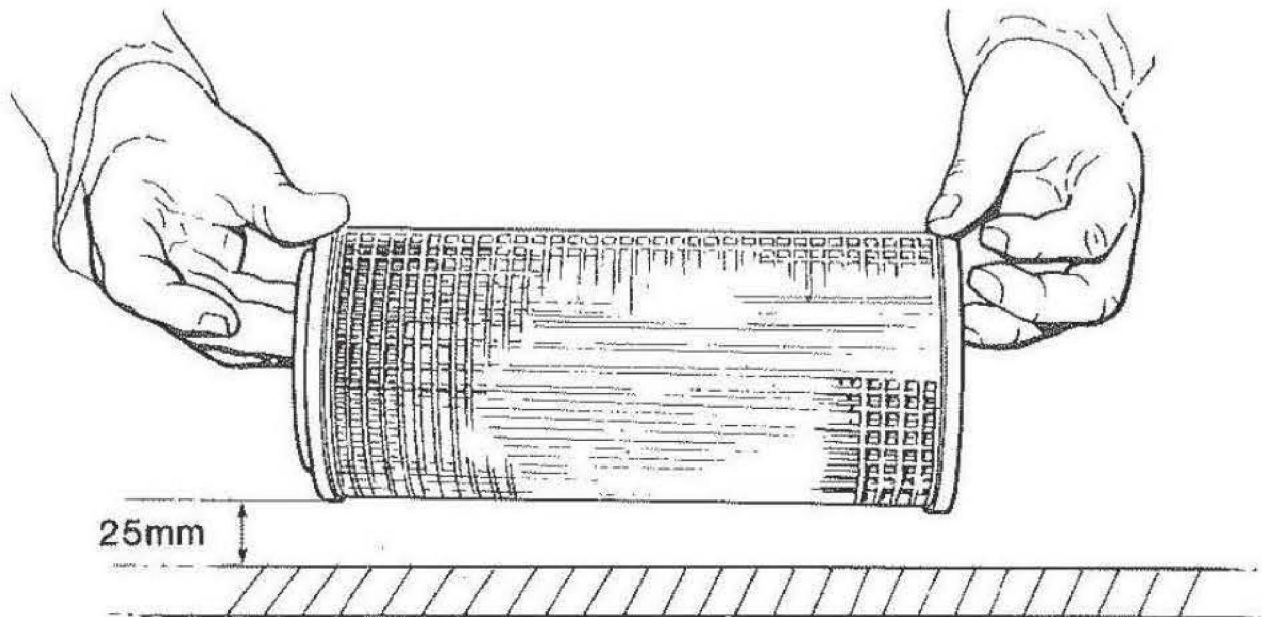

fig 56
- Light tapping of the filter element is also effective (figure 56) if the dust is dry. Hold the element lightly at each end and drop it from a height of **not more than 25mm** (1 inch) onto a **hard flat surface**.